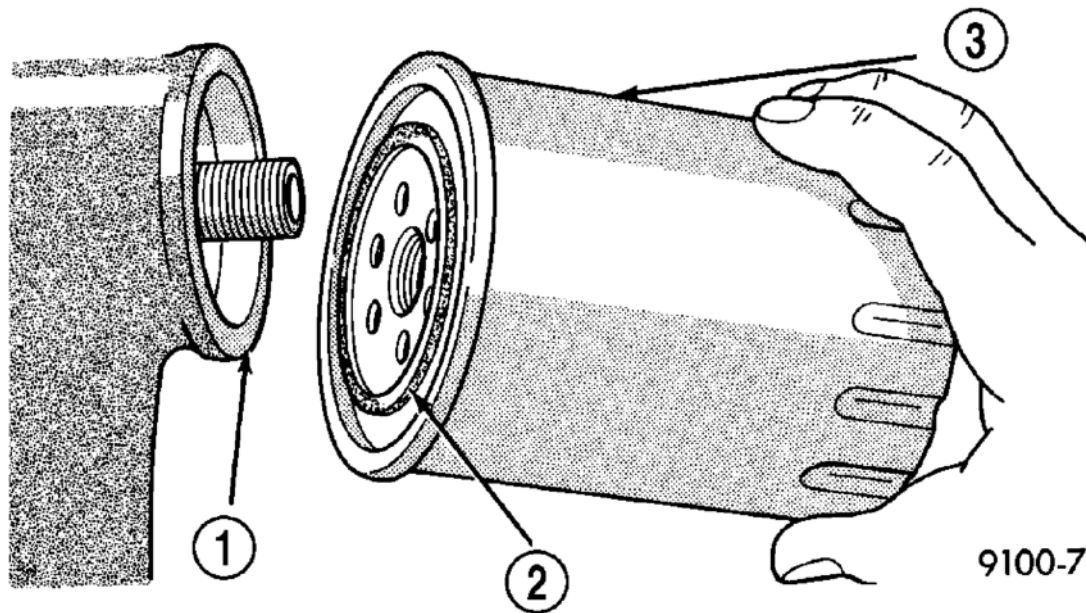

Fig. 176: Removing & Installing Oil Filter
1. Lightly lubricate oil filter gasket (2) with engine oil.
2. Thread filter onto adapter nipple. When gasket makes contact with sealing surface, hand tighten filter one half turn, or 180°, do not over tighten. See **Fig. 176**.